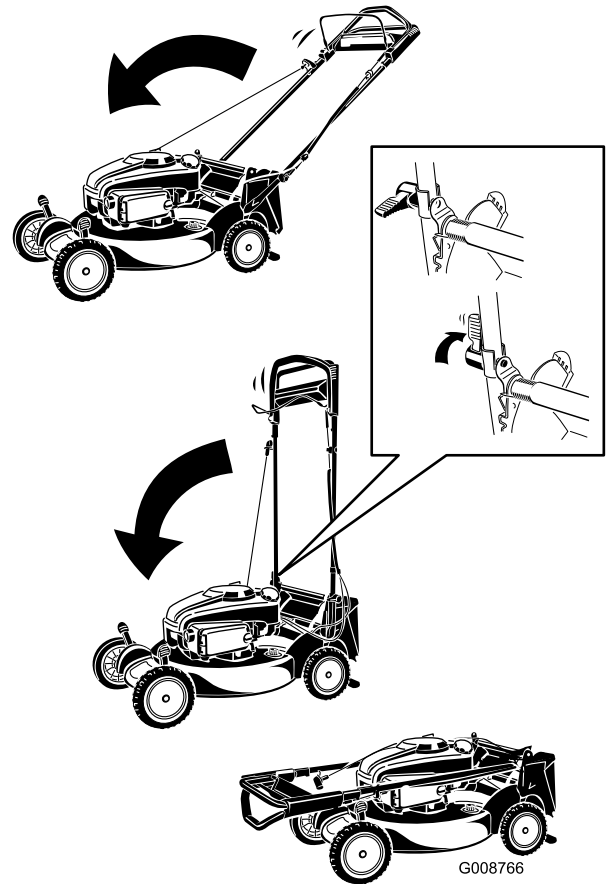

Figure 41
1. Rotate the handle forward (Figure 41).